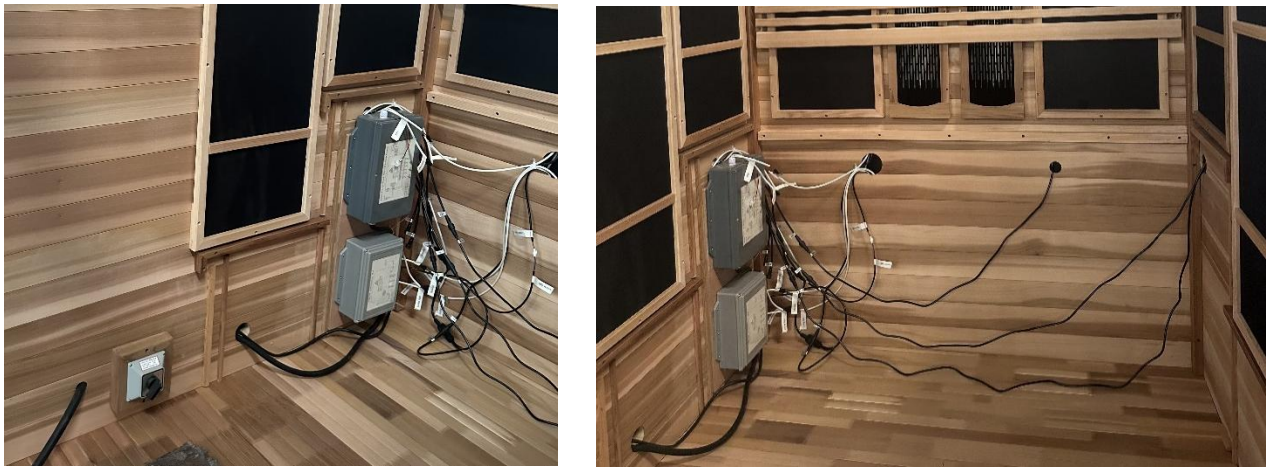

Figure 6 Please note that the junction boxes are on the **REAR WALL PANEL** for GDI-8523-01 and **LEFT SIDE WALL PANEL** for GDI- 8526-01.
1. There are several connections needed before the BENCH and BENCH SUPPORTS can be installed. Locate the junction boxes. First, you want to locate the thin blue antenna wire at the circuit connection box and uncoil it and stretch it out. Next, proceed to connect the wire harnesses and heater cords to their corresponding counterparts. Make sure to connect the heater cords properly. **If the heater cord connection is inserted incorrectly, the heaters will not work.** (see Figure 6 and 6a)